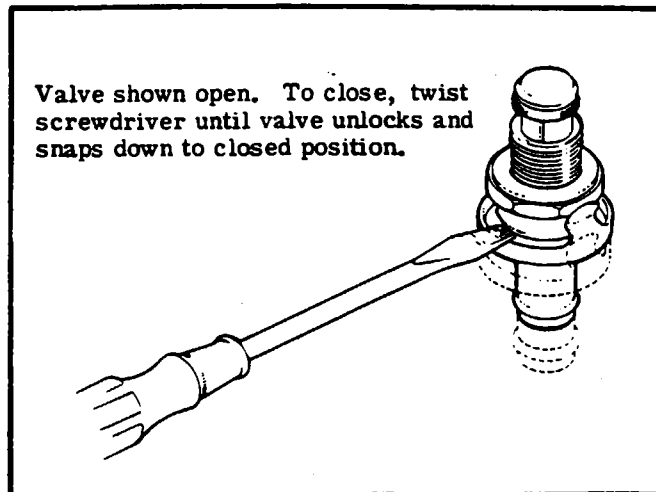

Figure 2-3. Quick-Drain Valve
- d. After engine oil has drained, close quick-drain valve as shown in figure 2-3 and remove hose, or install and safety drain plug.